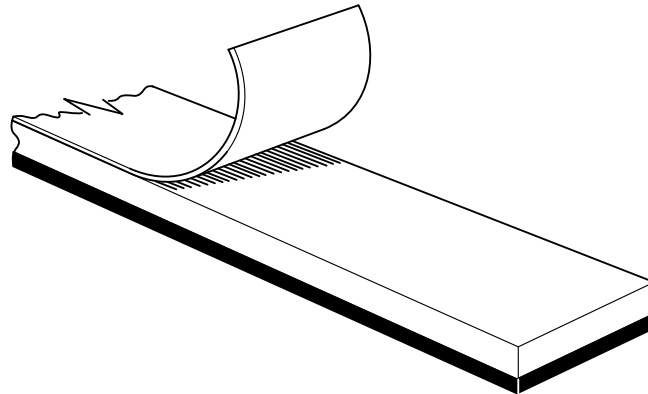

Figure 7 Door Seals
21. Remove Damaged Seal on Stand, Sight or BORC/COND Doors (Figure 7):